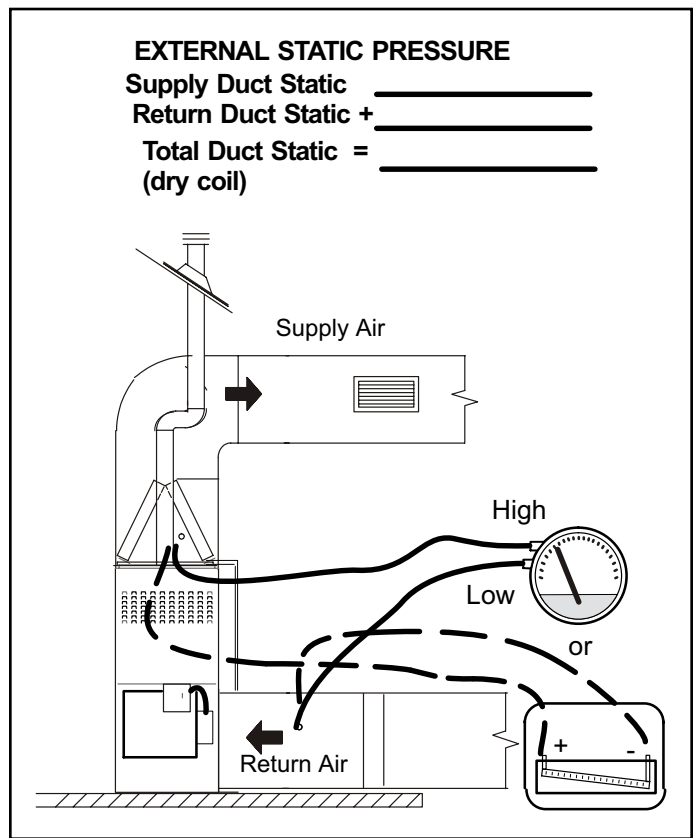

Figure 21.
1. Tap locations shown in Figure 21.